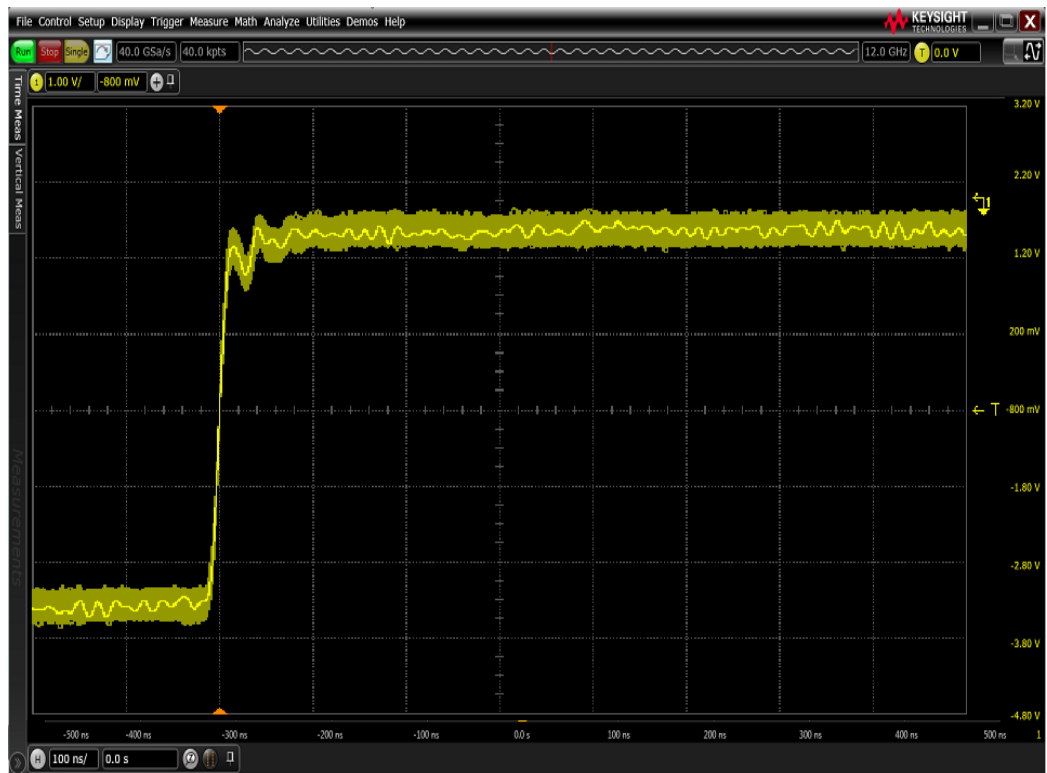

Figure 22 Example of a waveform when the probe connection is good
- 11 Set the horizontal position to approximately 3ns. A waveform similar to the one displayed in Figure 22 must appear.